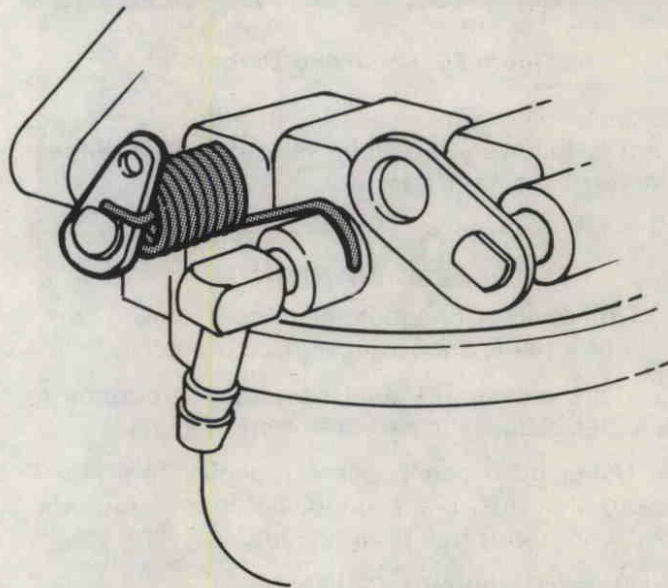

Figure 25. Throttle Return Spring.
C. Note position of throttle return spring. Figure 25.